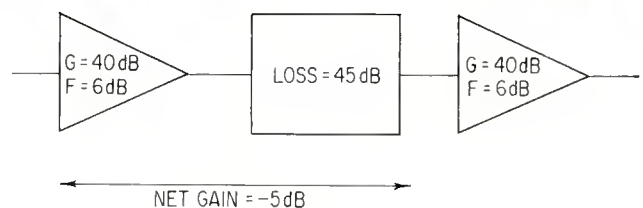

Figure 3. Here are the effects of the noise figure of the booster amplifier. Using equation (18) $F_s = 13.5$ and $F_{s(dB)} = 11.3$ dB.
At the bottom of FIGURE 2, we have shown the same system but this time we are interested in the way that the ultimate noise proceeds through the console. We have assumed a 20 kHz bandwidth so that the ultimate noise is -131 dBm at the microphone. The next block is labeled "Noise Figure" and this deserves comment. It will be recalled that the noise figure of the preamplifier and the booster amplifier were given as 6 dB each (a respectable value). It will be noted that the combined losses of the fader control and the mixer network add to 45 dB which is greater than the transducer gain of the pre-amplifier. Thus the signal emerging from the mixer network (top of FIGURE 2) is 5 dB less than mic level; and the noise (bottom diagram) is now back in the region of the ultimate noise. It is necessary, therefore to consider the effects of the noise figure of the booster amplifier. This is done as is shown in FIGURE 3. Here we apply the formula of equation (18) covering the system noise figure produced by two amplifiers in cascade. From the mathematics of FIGURE 3, it will be seen that the effects of the 45-dB loss in the fader and mixer are to increase the system noise figure to 11.3 dB from the original 6 dB of the first amplifier. The balloons on the noise diagram give the noise levels throughout the console, with the output noise being -51.7 dBm and a signal/noise ratio of 59.7 dB. The equivalent input noise is -119.7 dBm.